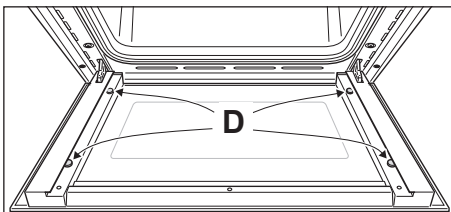

Figure 43
IMPORTANT: It is advisable, while removing the glass, to keep pressed in position the four rubber pads "D" (fig. 43), by a finger, to avoid breakage or slippage of the rubber pads themselves.
- Check that the four rubber pads are in place ("D" in fig. 43).